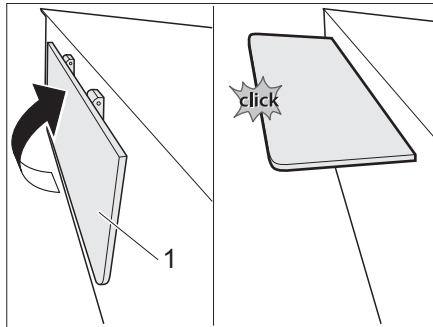

Fig. 75 Position the support edge
- ▶ Unlock the support edge (Fig. 75,1) and swivel it upwards until it locks into place.